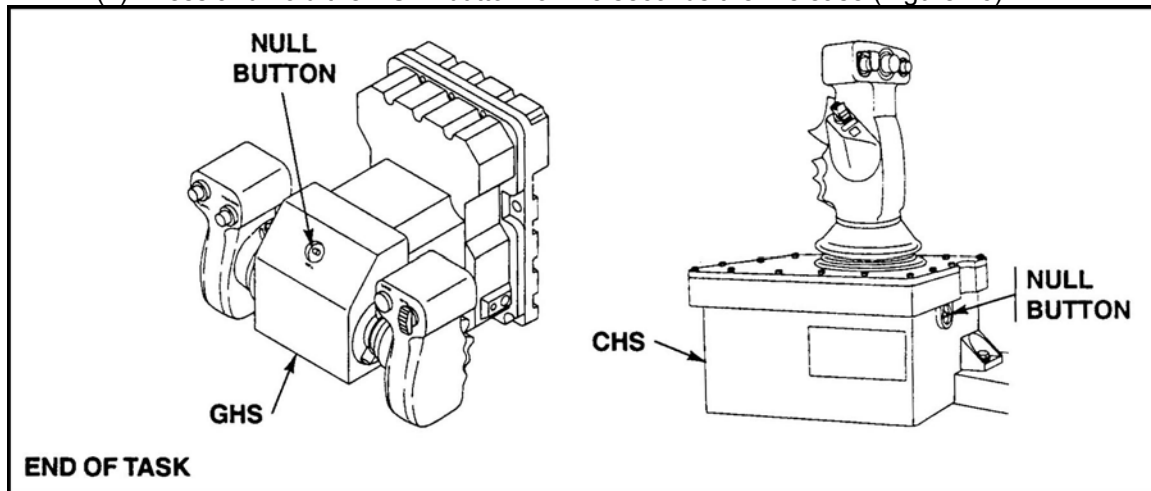

Figure 16. NULL button.
- (1) Press and hold palm switches.
- (2) Observe the reticle. If reticle moves off target more than 1 mil in 10 seconds proceed to next step. If the reticle does not move then release palm switches the task is complete.
- (3) Release the palm switches.
- (4) Press and hold the NULL button for 1-3 seconds then release (Figure 16).